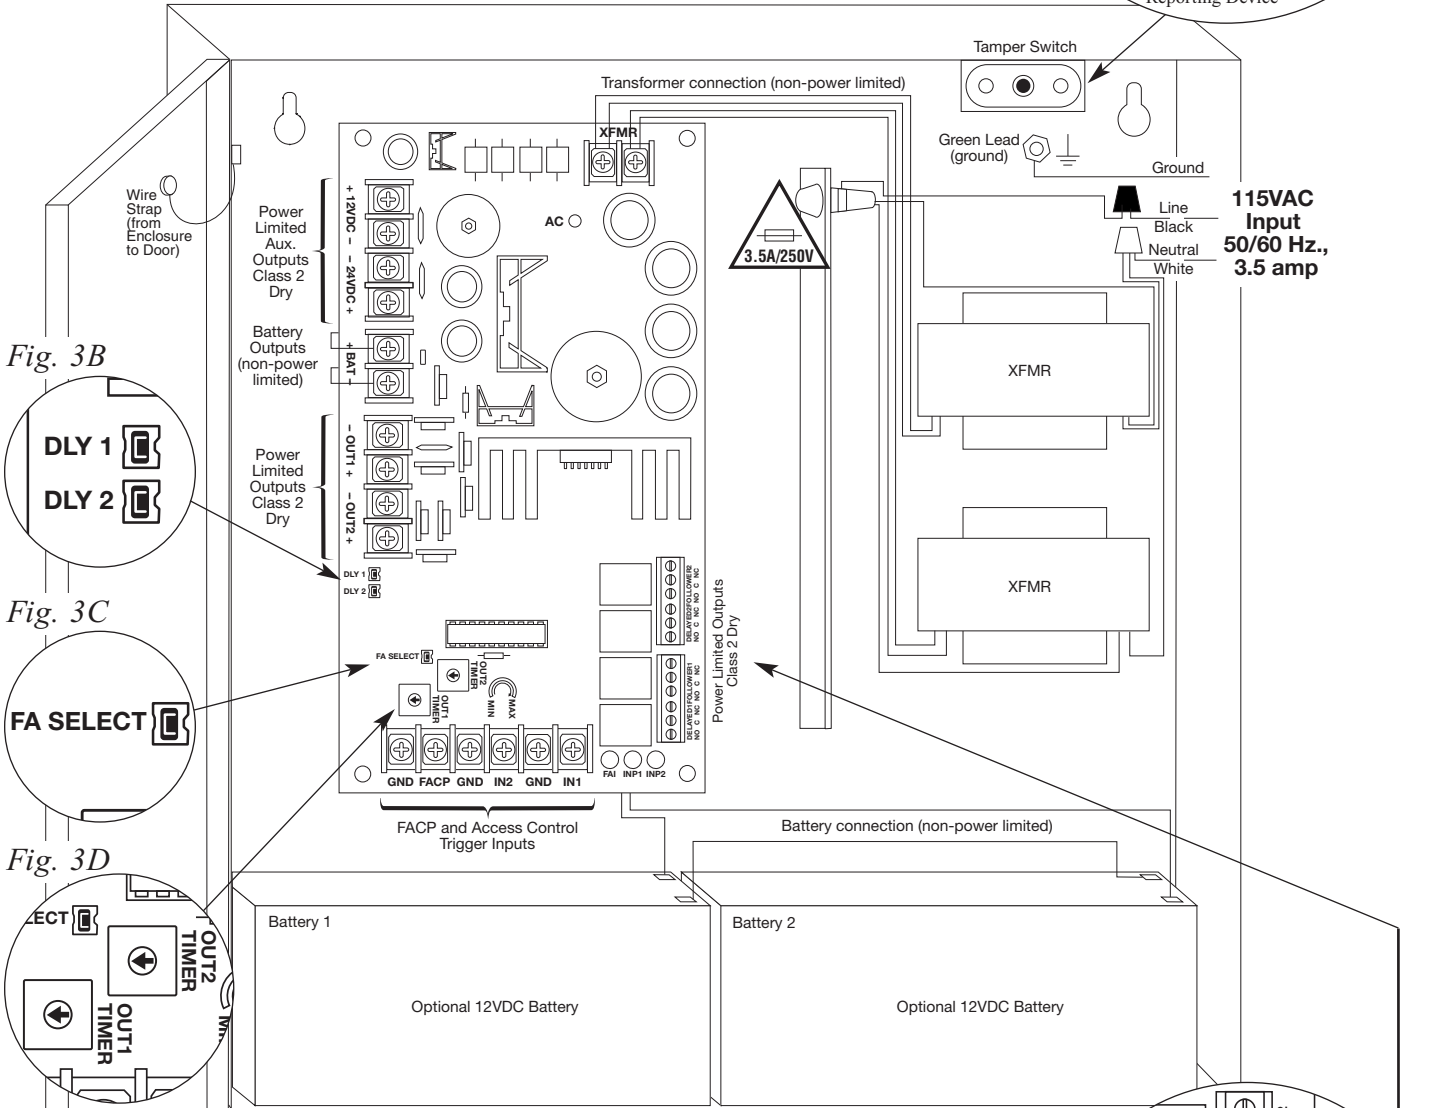

Fig. 3B
8. Connect devices to be controlled to terminals marked [DELAYED1, DELAYED2] and/or [FOLLOWER1, FOLLOWER2] (Dry form “C” contacts are rated @ 1 amp/28VDC) (Fig. 1, pg. 5). Adjust delay time using jumper pins marked [DLY1] and [DLY2] (Fig. 3B, pg. 7) (0.5 seconds with jumper in place, one (1) second with jumper removed), (unit is factory set for 0.5 seconds delay).